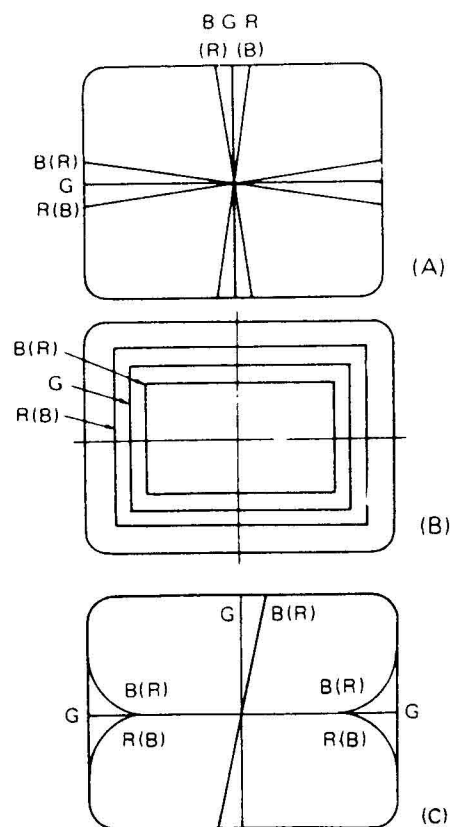

Fig. 11
- (1) Observe the horizontal lines at the centre of screen. If the red and blue horizontal lines are shifted crossing with green horizontal lines as shown in Fig. 11(A), converge them by swinging yoke vertically. Then confirm that vertical lines at the screen centre are also converged.
- (2) Observe the vertical lines at left and right centres of the screen as shown in Fig. 11(B). If red or blue vertical line is shifted against green vertical
- (3) The shift of beams as shown in Fig. 11(C) can be converged by rotating the entire deflection yoke. The rotation of the yoke should be made in consideration of a point where raster rotation and convergence compromise.